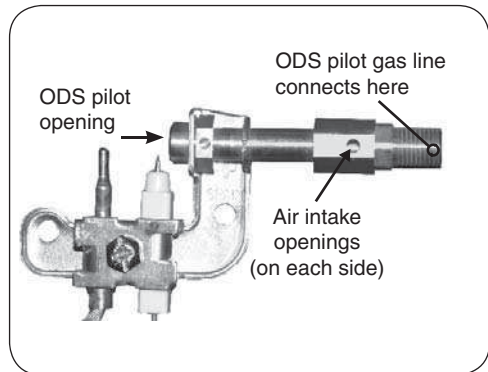

Fig. 18-1
1. Turn the burner system to the **OFF** position and allow it to cool. Inspect the ODS pilot area (see Fig. 18-1) for any visual contamination or debris (usually lint, hair, spider webs, or small insects). Lightly brush off all external surfaces while vacuuming loosened debris from the ODS pilot opening. **Be careful not to brush any foreign material into the ODS pilot opening.**
2. Clean out the air intake openings (see Fig. 18-1) by lightly brushing around the openings while vacuuming.
4. If the ODS pilot flame does not burn as indicated in the instructions, extinguish the ODS pilot by turning the valve to the full **OFF** position. Using a compressed air duster, insert the flexible nozzle through the air intake openings, ensuring that the nozzle is pointed toward the ODS pilot opening (see Fig. 18-1). Blow air through the intake openings to clear out any debris that may be in the system.
5. Relight the ODS pilot and inspect it to be sure it is burning as shown in the instructions. If not, extinguish the ODS pilot and **turn off the gas supply to the burner system.** Using an adjustable or a 1/4" wrench, disconnect the ODS pilot gas line (see Fig. 18-1) from the valve.